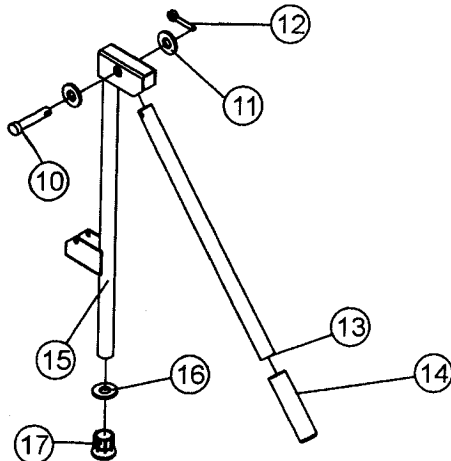

Figure 3. Handle Mount Assembly
3. Set the rounded corner of the tubing in the bracket at the back of the axle mount and place a screw (item 5) and flat washer (item 6) through the holes, securing the tubing in place. Place another flat washer and a nyloc nut (item 7) on the threaded end of the screw and tighten.
4. Secure the axle mount to the frame tubing by placing a small clamp (item 8) over the frame tubing and the axle mount. Place a large clamp (item 9) over the small clamp. Insert screw (item 18) into the small clamp and secure with nyloc nut (item 7) and washer (item 6). Tighten screw until the clamp securely holds the axle mount to the frame tubing.
6. Insert a flat washer (item 16) into the crutch tip (item 17) and place the combined items over the open end of the handle mount (item 15). See Figure 3.